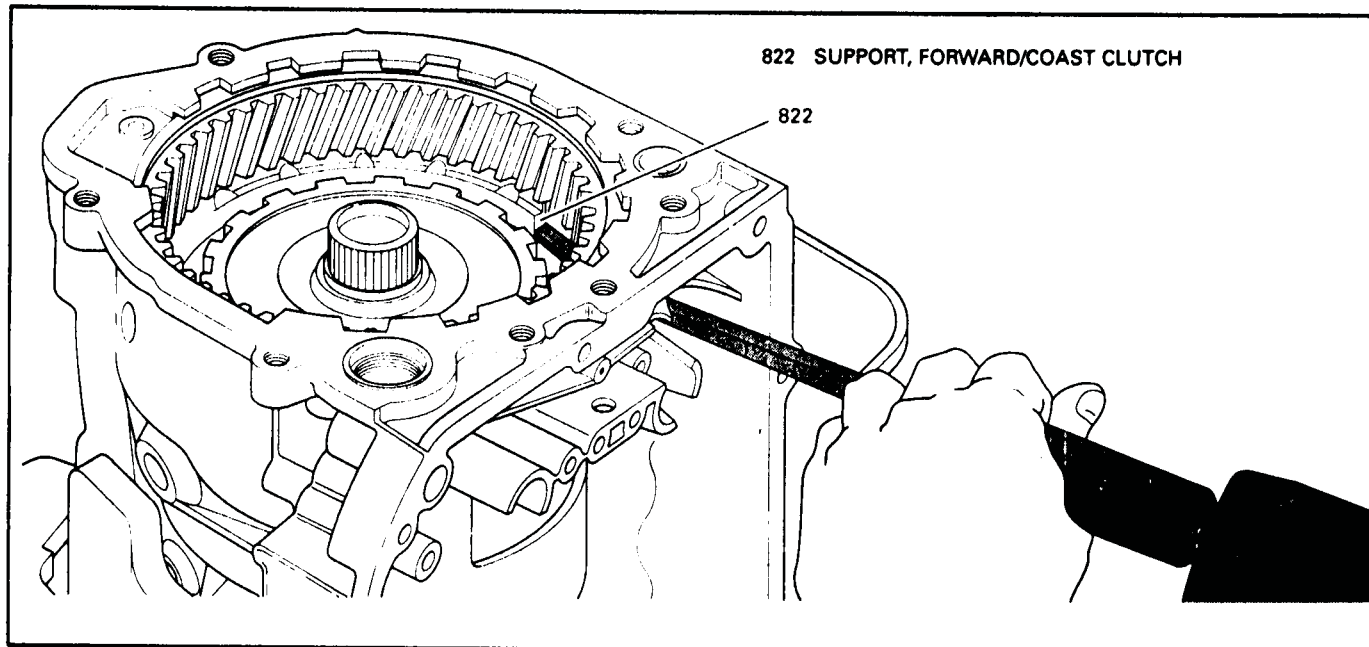

Figure 99
8. Rotate the support counterclockwise by tapping on support with screwdriver and mallet, as shown in Figure 99.